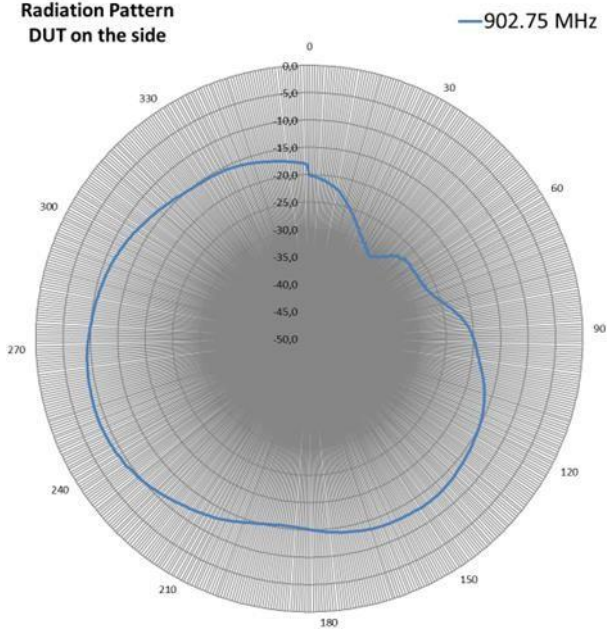

FIGURE 15
- The maximum gain of the antenna is -8.7dBi (from figure 15)